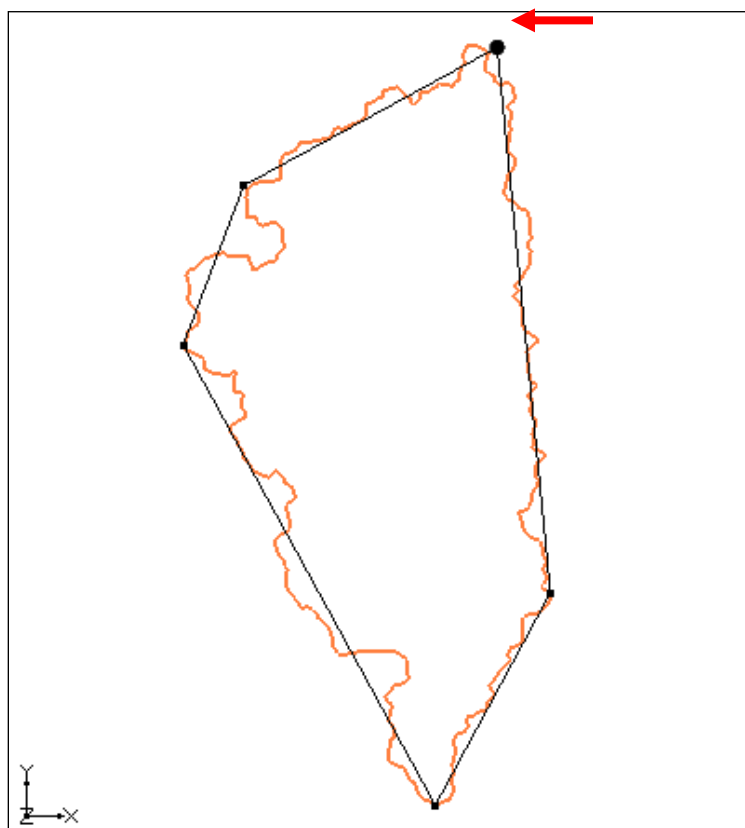

Figure 18 Creating an arc for the watershed boundary
- Using the **Create Arc**  tool, create a simple arc as shown in Figure 18 by clicking in the Graphics Window. Click on the starting point (indicated by the red arrow in Figure 18) to close the arc to form a polygon. Hit the *Backspace* key to remove the last point clicked.